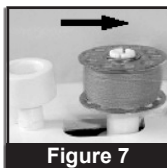
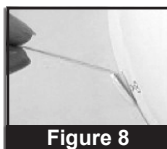

Figure 7
Figure 8
6. When you have your desired amount of thread on the bobbin, switch to OFF and move the bobbin to the left (Figure 7) snip the thread. (Figure 8)